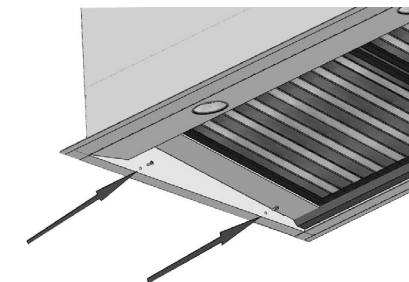

FIG.6
- › Insert the screws provided into the holes inside the appliance to secure it completely (Fig.6).